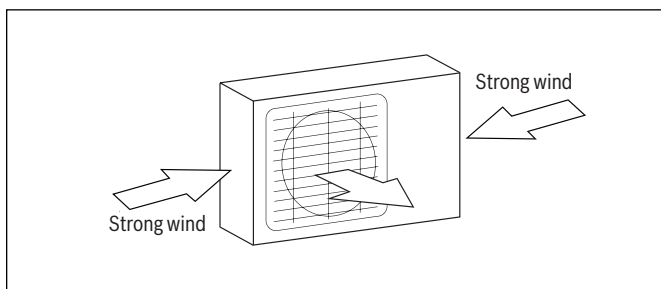

Figure 4
- ▶ If the location is exposed to strong winds (for example: near a seaside), the unit must be placed against the wall to shelter it from the wind. If necessary, use an awning. (See Fig.4 & 5)